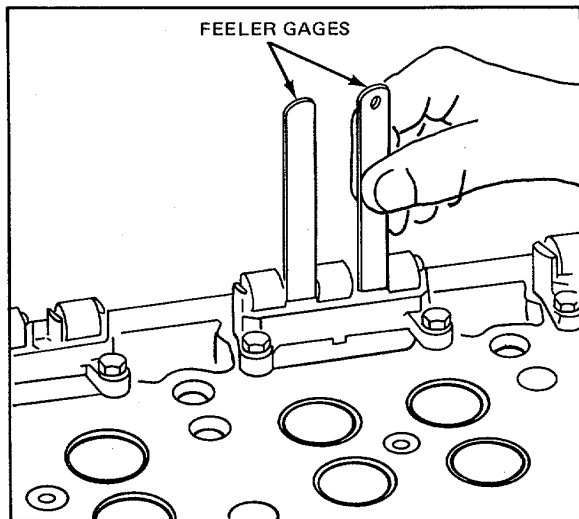
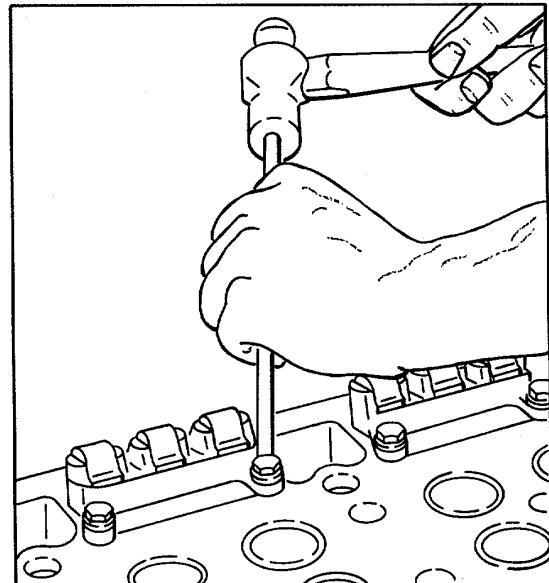

Figure 9. Checking Cam Follower to Guide Clearance
Figure 10. Adjusting Cam Follower Guide
4. Attach the follower guide to the cylinder head to hold the group of three cam followers in place. Tighten the guide bolts to 12-15 lb ft (16-20 Nm) torque. Check to be sure there is at least 0.005-inch clearance between the cam follower legs and the cam follower guide (Fig. 9). If there is insufficient clearance, loosen the guide bolts slightly and tap each corner of the guide with a brass rod (Fig. 10). Then retighten the bolts to the specified torque.